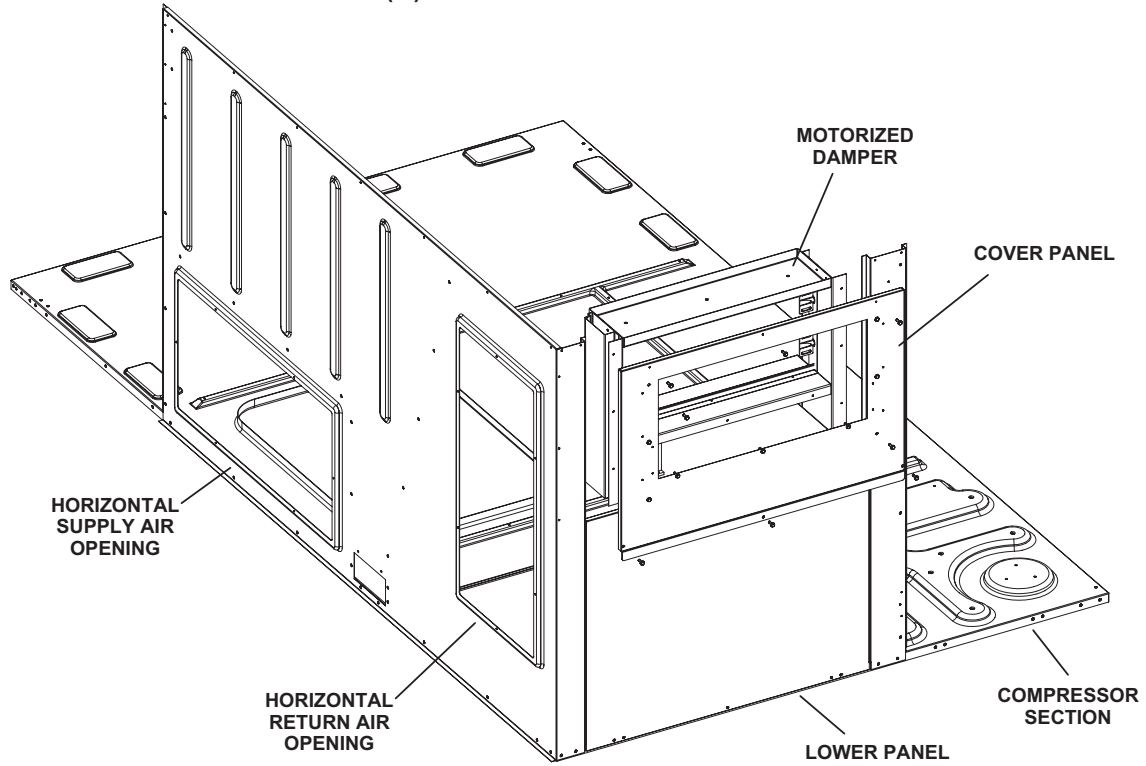
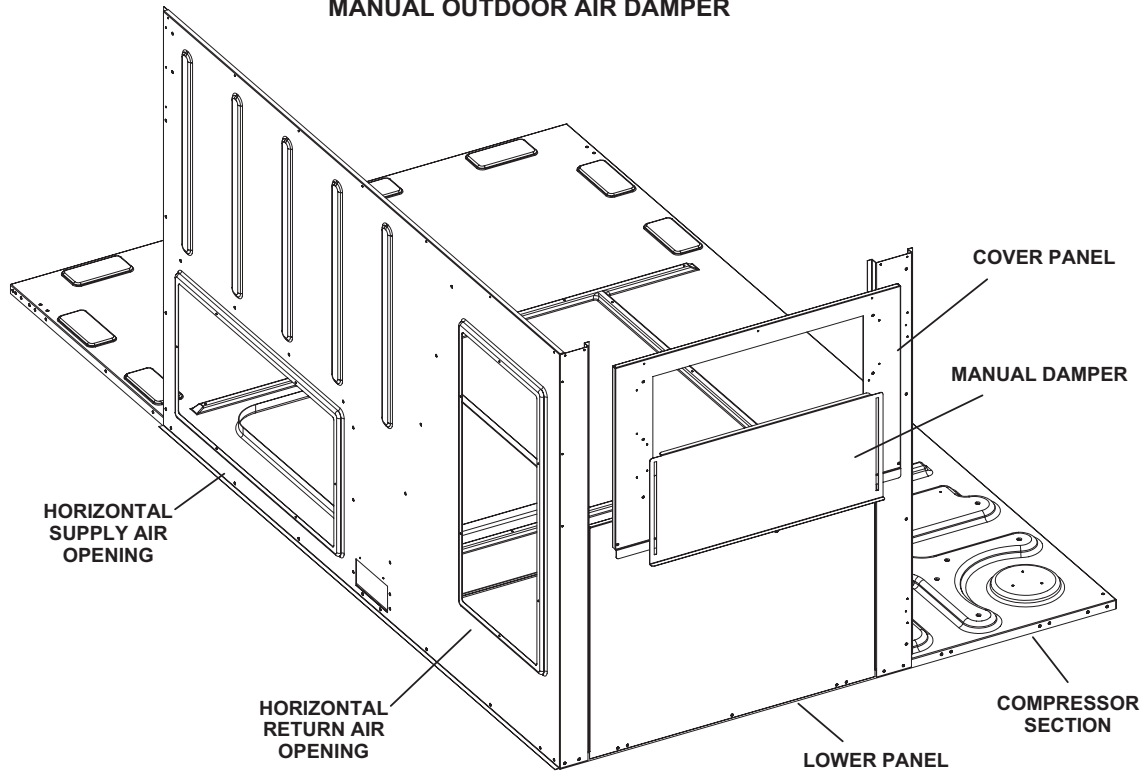

FIGURE 17
FIGURE 18
LAOAD(M) consists of a set of dampers which may be manually or motor (M) operated to allow up to 25 percent outside air into the system at all times (see FIGURE 17 and FIGURE 18). Either air damper can be installed in LCT units. Washable filter supplied with the outdoor air dampers can be cleaned with water and a mild detergent. It should be sprayed with Filter Handicoater when dry prior to re-installation.